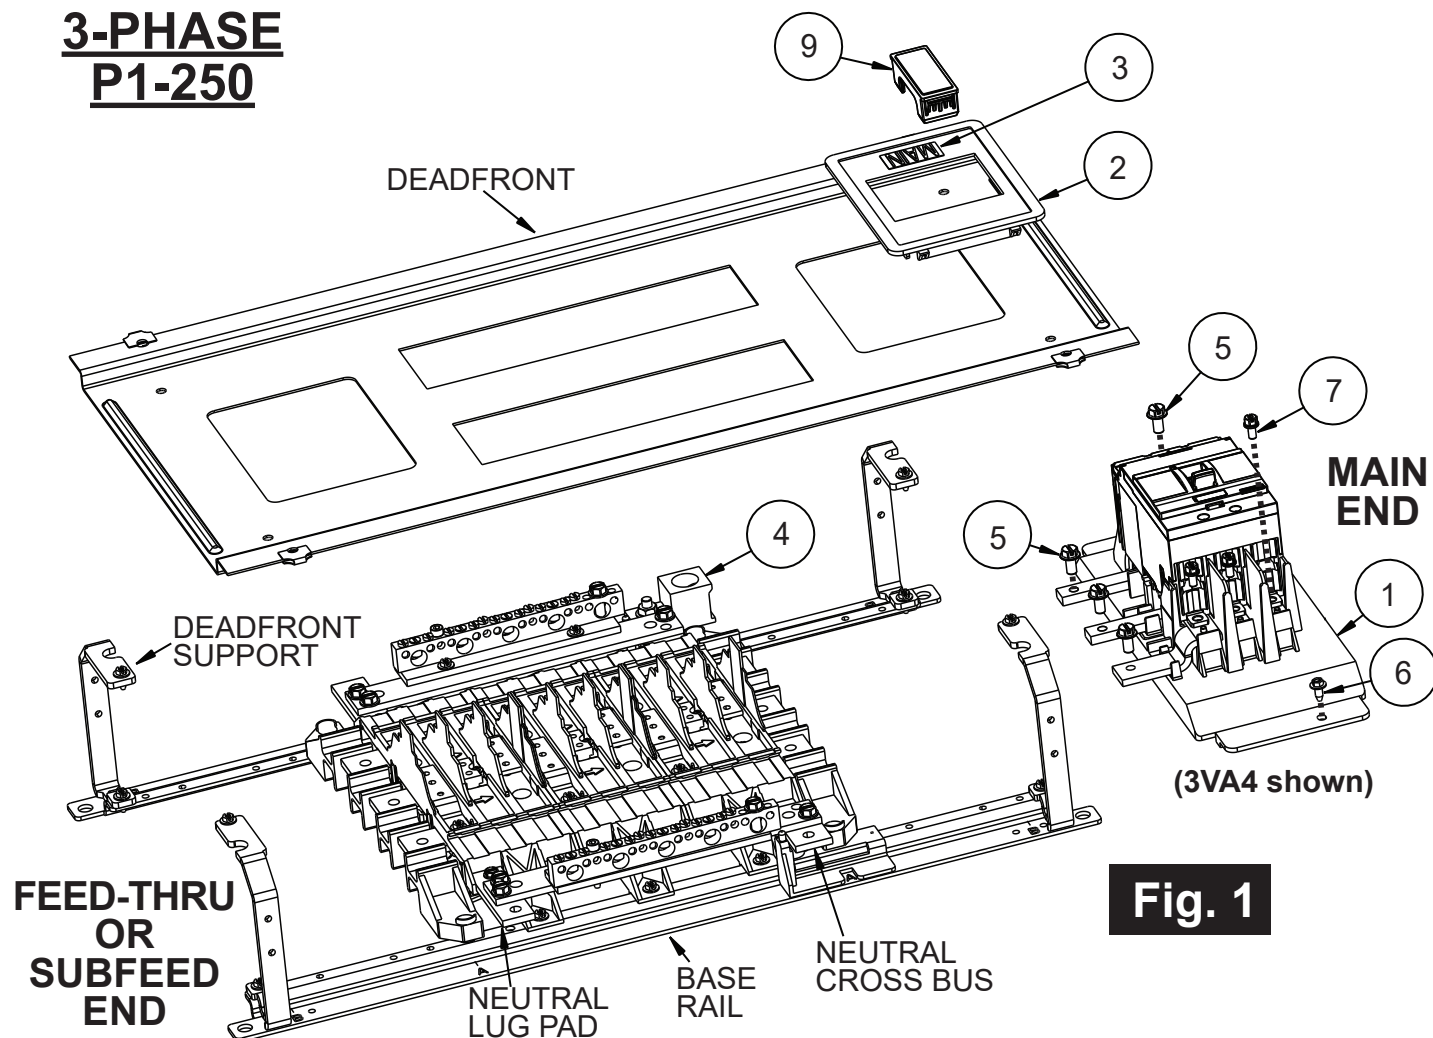

Fig. 1
5. Position the breaker barrier assembly (Item 1) at the MAIN END of the panel. (See Fig. 1) Ensure the straps are properly snapped into the barrier and then align them with the panel bus. Secure the straps to the phase bus with 1/4"-20 SEMS screws (Item 5). Do not tighten at this time.